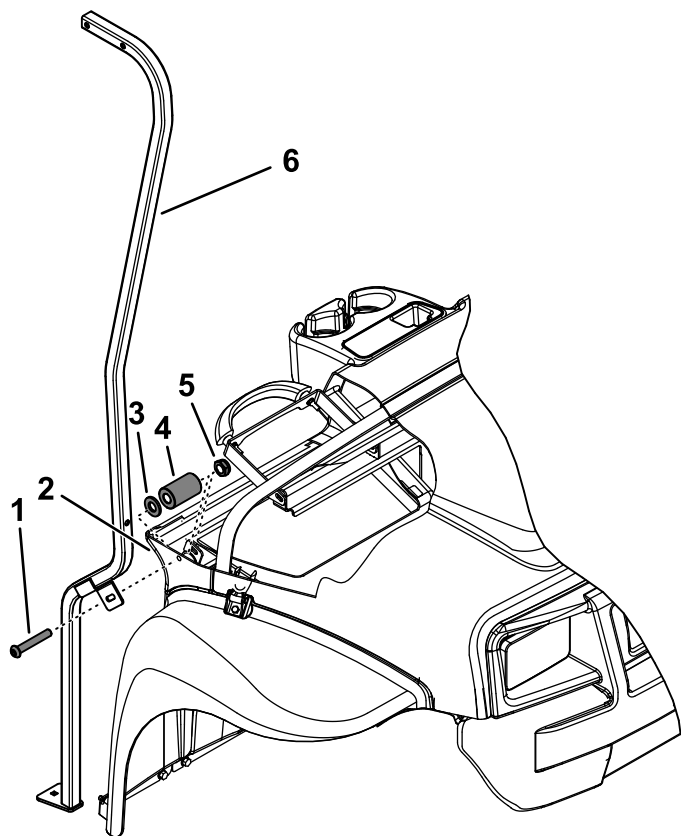

Figure 5
- A. Install the spacer and flat washer (11/32 inch) between the dash and dash support (Figure 5).
- B. Install the hex-socket button head screw (5/16 x 2 inches) through the canopy support, dash, and dash support (Figure 5).
- C. Install the flange nut (5/16 inch) to secure the dash support to the canopy support (Figure 5).